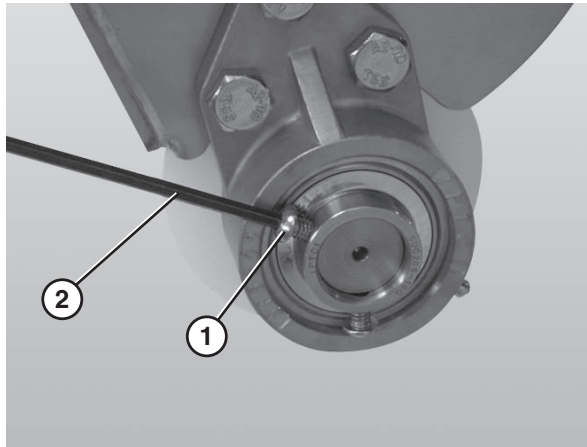

Figure 83
5. Tighten the 3 hole flange with bearing fasteners (**Figure 83, item 1**) using a hex wrench (**Figure 83, item 2**) to 54 in•lbs (6 N•m). Check after 24 hours of conveyor use.